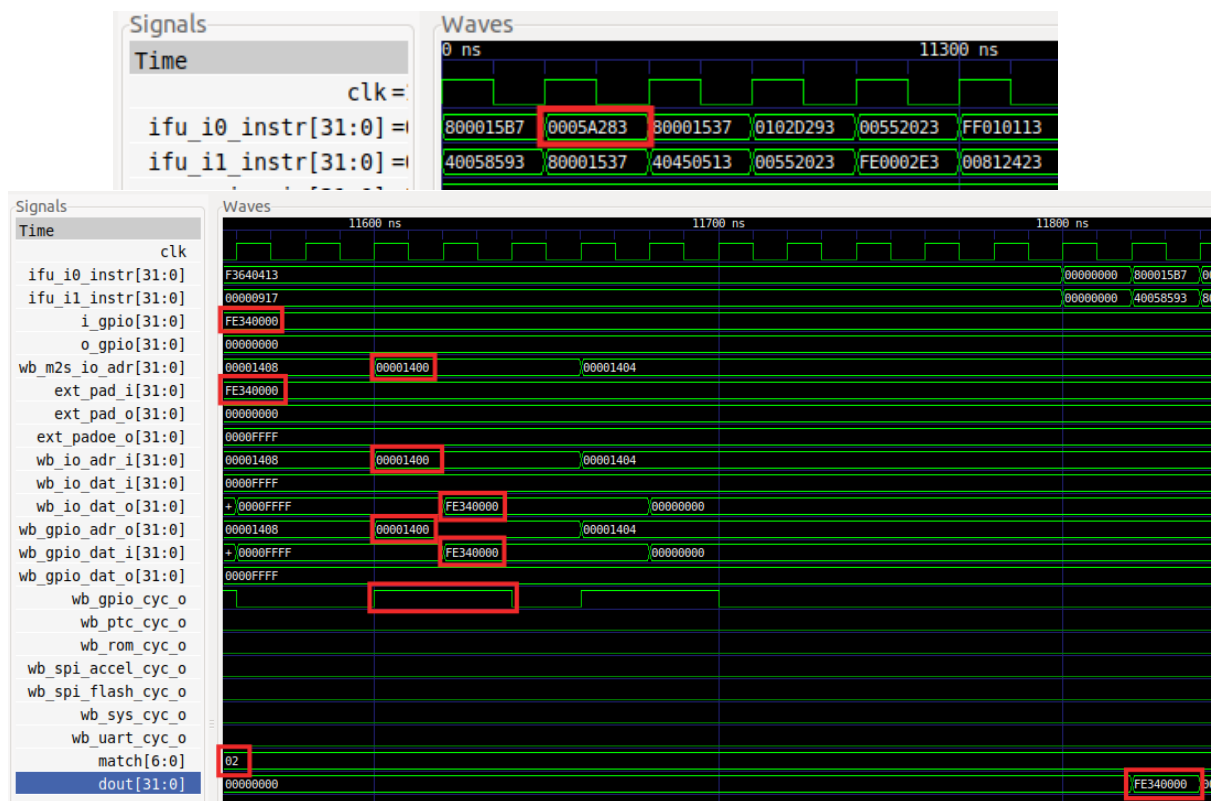

Figure 2. Simulation of the Switches reading
Set the same time range as 11100ns-12000ns. The load instruction (`0x0005a283`) is fetched around 11200ns in `ifu_i0_instr` (see Figure 2).
- The value of the switches is provided into the GPIO module through signals `i_gpio` and `ext_pad_i` (you can review the code from Figure 2). You can verify in the figure that the value simulated for the switches in the testbench is `0xFE34`, as this is the value contained in signals `i_gpio[31:16]` and `ext_pad_i[31:16]`.